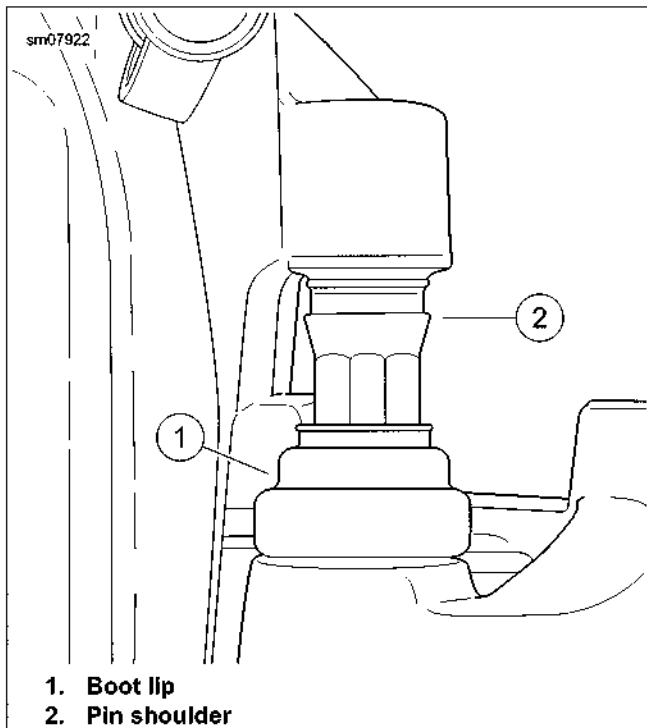

Figure 2-62. Pins Shoulder and Boot Lips
5. See Figure 2-62. Slide brake caliper all way onto mounting bracket until boot lips fit over tapered shoulders of bolt pins.